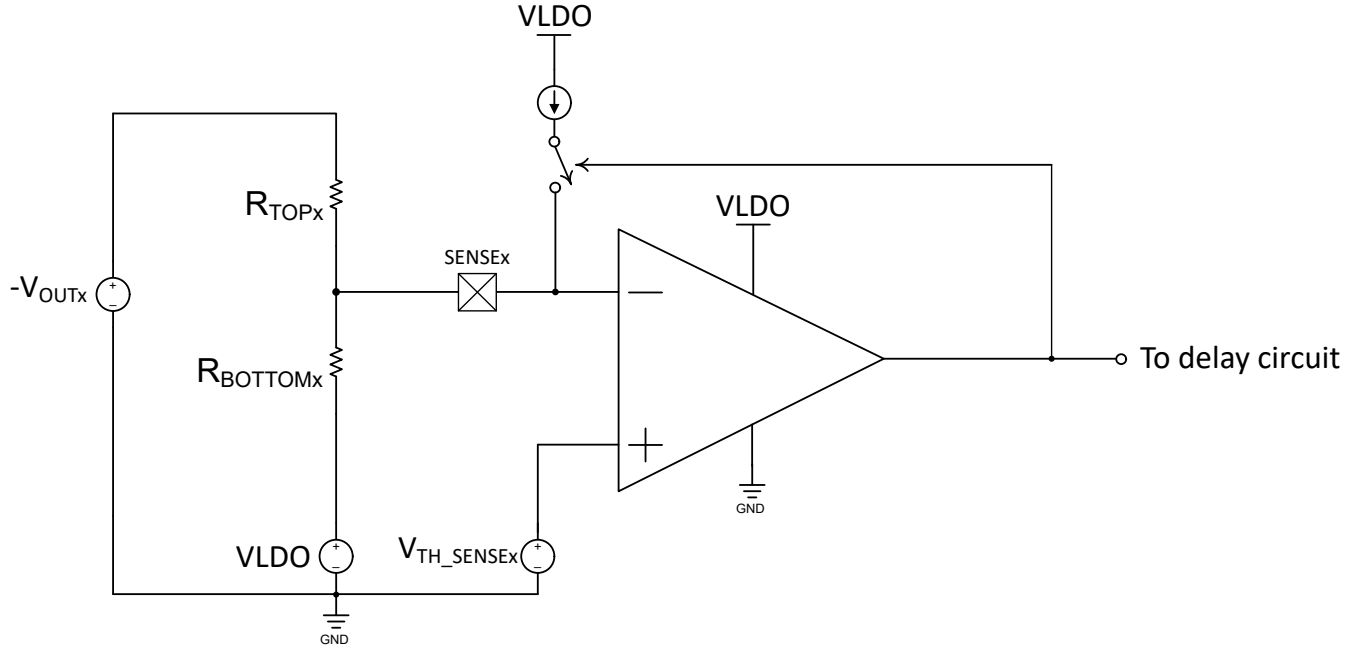

Figure 9-4. Negative Voltage Monitoring on the TPS7H3xx4 using VLDO
The TPS7H3xx4 can be used to monitor negative voltages by level shifting the attenuated sensed voltage. Since the SENSE_x inputs are referenced to GND, we can use a stable positive reference voltage to level shift the SENSE_x input. In the case of the TPS7H30xx4 the VLDO pin can be used as the stable positive reference voltage, refer to Figure 9-4. When $-V_{OUTx}$ is at zero volts, the voltage at SENSE_x is above the threshold due to the offset voltage, as the $-V_{OUTx}$ starts regulation the SENSE_x node is pulled to a lower voltage. For this reason when the $-V_{OUTx}$ rail needs to be monitored for undervoltage events (UV), an overvoltage (OV) channel needs to be used, and viceversa.